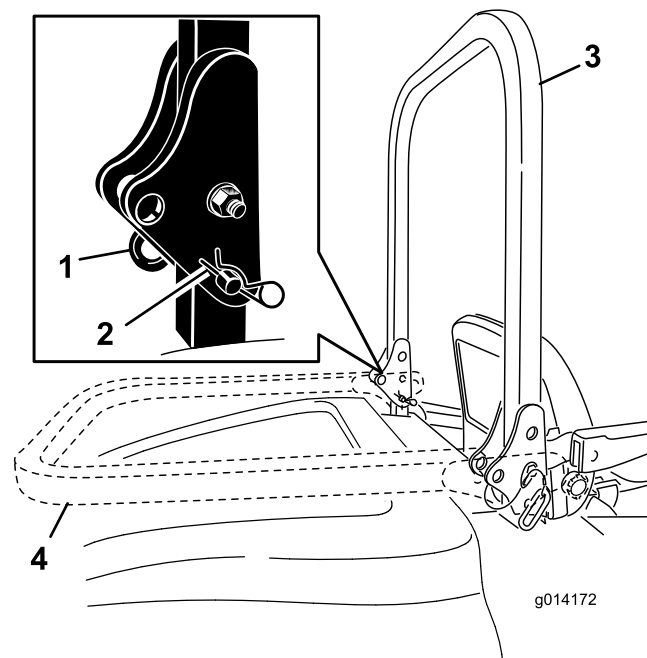

Figure 21
1. To lower the roll bar, remove the hairpin cotters, push the roll bar forward against the springs, and remove the 2 pins (Figure 21).
2. Lower the roll bar to the down position (Figure 21).
3. Install the 2 pins and secure them with the hairpin cotters (Figure 21).
4. To raise the roll bar, remove the hairpin cotter pins and remove the 2 pins (Figure 21).
5. Raise the roll bar to the upright position and install the 2 pins and secure them with the hairpin cotters (Figure 21).